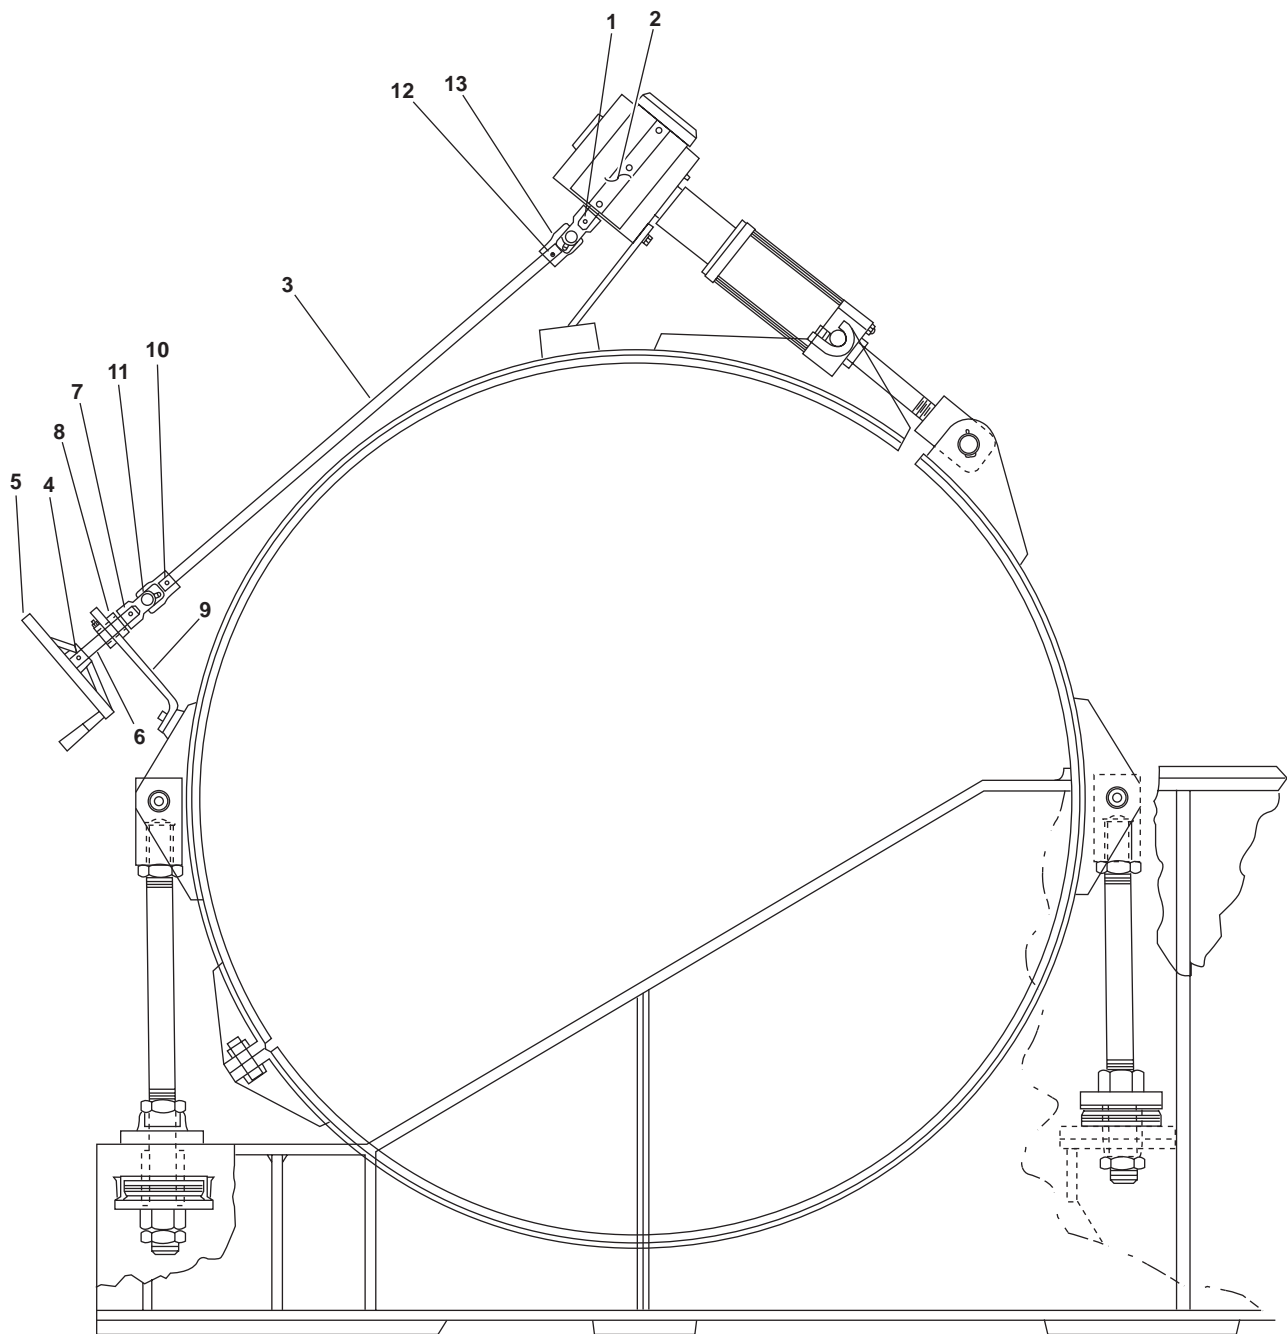

Figure 2. Clutch Brake Assembly
1. Drive the pin (figure 2, item 1) from the gear reducer (figure 2, item 2).
2. Remove the drive shaft (figure 2, item 3) from the gear reducer (figure 2, item 2).
3. Drive the pin (figure 2, item 4) from the hand wheel (figure 2, item 5).
4. Remove the hand wheel (figure 2, item 5) from the hand wheel shaft (figure 2, item 6).
5. Drive the pin (figure 2, item 7) from the hand wheel shaft (figure 2, item 6).
6. Remove the drive shaft (figure 2, item 3) from the hand wheel shaft (figure 2, item 6).
7. Remove the bushing (figure 2, item 8) from the hand wheel bracket (figure 2, item 9).
8. Drive the pin (figure 2, item 10) from the drive shaft (figure 2, item 3).
9. Remove the lower universal joint (figure 2, item 11) from the drive shaft (figure 2, item 3).
10. Drive the pin (figure 2, item 12) from the drive shaft (figure 2, item 3).
11. Remove the upper universal joint (figure 2, item 13) from the drive shaft (figure 2, item 3).
1. Install the upper universal joint (figure 2, item 13) on the drive shaft (figure 2, item 3).
2. Install the pin (figure 2, item 12) in the upper universal joint (figure 2, item 13).
3. Install the lower universal joint (figure 2, item 11) on the drive shaft (figure 2, item 3).
4. Install the pin (figure 2, item 10) in the lower universal joint (figure 2, item 11).
5. Install the bushing (figure 2, item 8) in the hand wheel bracket (figure 2, item 9).
6. Install the drive shaft (figure 2, item 3) on the hand wheel shaft (figure 2, item 6).
7. Install the pin (figure 2, item 7) in the hand wheel shaft (figure 2, item 6).
8. Install the hand wheel (figure 2, item 5) on the hand wheel shaft (figure 2, item 6).
9. Install the pin (figure 2, item 4) in the hand wheel (figure 2, item 5).
10. Install the drive shaft (figure 2, item 3) on the gear reducer (figure 2, item 2).
11. Install the pin (figure 2, item 1) in the gear reducer (figure 2, item 2).